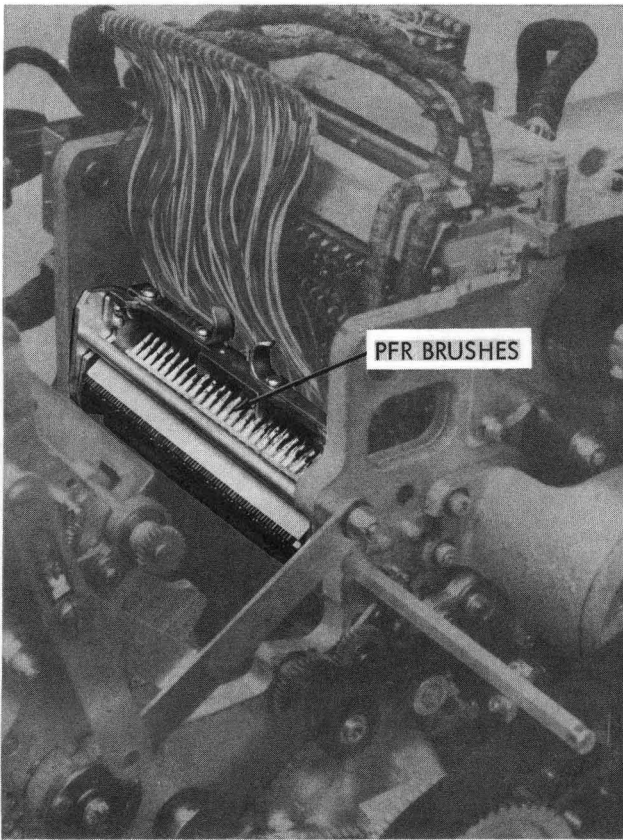

Figure 8-3. Punch Feed Read Brush Location
The Punch Feed Read feature adds an additional set of 80 read brushes to the blank station ahead of the punches in the punch feed (Figure 8-3). With this feature, data may read from a card and the results of a calculation may be punched into the same card. Normal operation of the 1401 is retained with PFR operating. The only restriction is that no combination operation code involving the use of the read feed may be programmed in conjunction with PFR Op code, 4R. For example, the instruction 5R will result in a read and punch (5) operation. The R will be ignored.